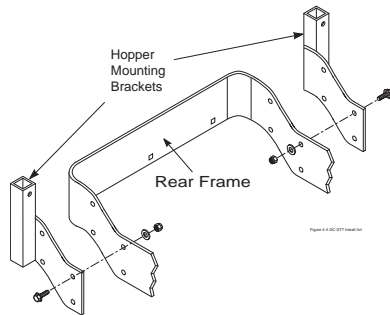

FIGURE 3-4
11. Install the hopper mounting brackets to the outside of the frame on the rear of the machine. See Figure 3-4.